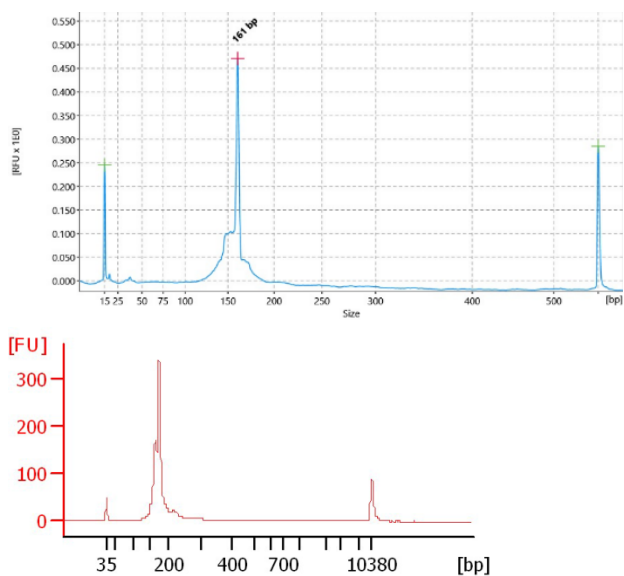

Figure 3. QIAxcel Connect (top) and Bioanalyzer (bottom) traces of miRNA-sized libraries prepared with the QIAseq miRNA Library Kit.
1. Analyze 1 μL of the miRNA Sequencing Library on a QIAxcel Connect, Agilent Bioanalyzer, or Fragment Analyzer according to the manufacturer’s instructions. A miRNA-sized library is approximately 166 bp, and a piRNA-sized library is approximately 174 bp. If there is a peak at approximately 151–158 bp, this comprises RNA fragments or small RNAs other than miRNAs; these are common to see in total RNA samples, being particularly strong in biofluid total RNA samples. Even if a peak is observed at 151–158 bp, there are still likely miRNAs present in the sample. Any RNA that has a 3' OH and 5' PO₄, and is approximately 50 bp and smaller, should be robustly captured by the QIAseq miRNA Library Kit. A typical miRNA-sized library is shown in Figure 3 (next page).